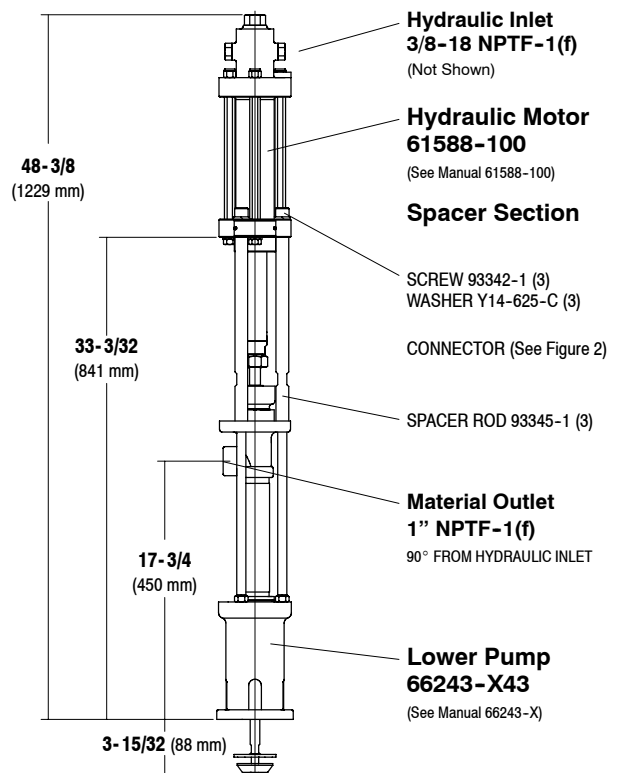

FIGURE 1
- Remove the three screws and washers from the three spacer rods (see figure 1).